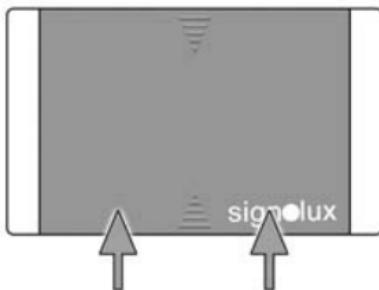

Figure 3
- Push the front plastic cover upwards. A certain resistance, caused by the latching, has to be overcome. (Figure 3)